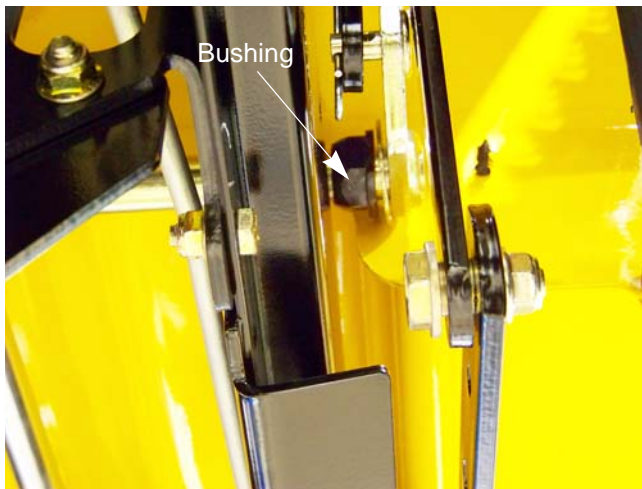

Figure 8.27
3. Slide the bushing out of the frame. See Figure 8.27.